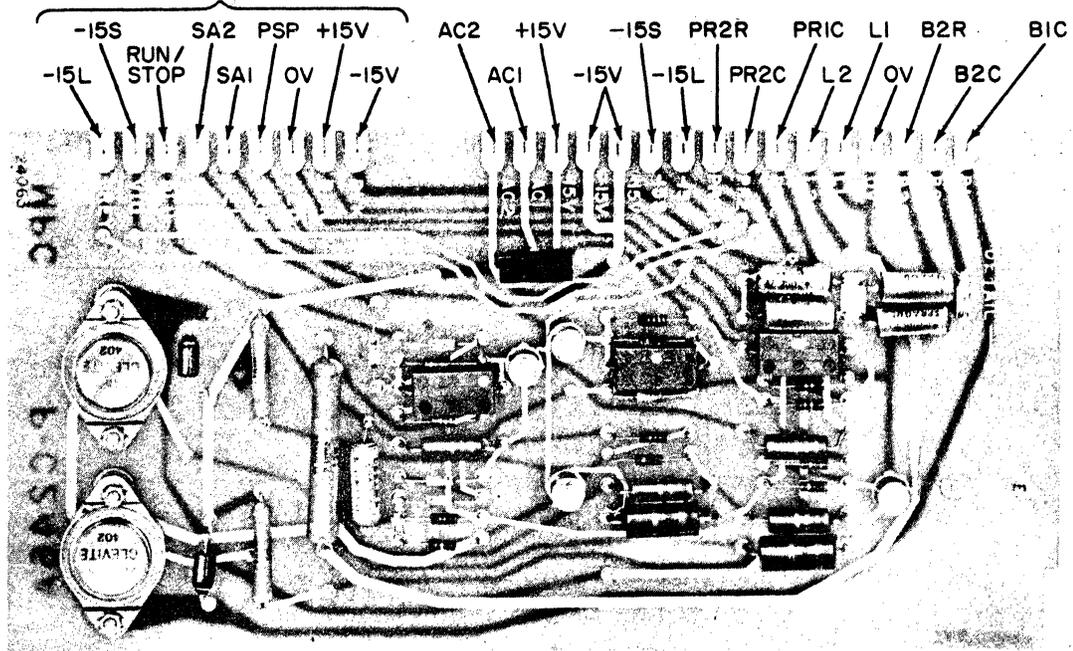

Figure 5-4. MPC Board Edgeboard Connections
- b. Disconnect solenoid leads from PR1C and PR2C edgeboard connections on MPC board (see Figure 5-4) and separate leads from wire harness.
- b. Disconnect brake coil leads from B1C and B2C edgeboard connections on MPC board (see Figure 5-4) and separate leads from wire harness.